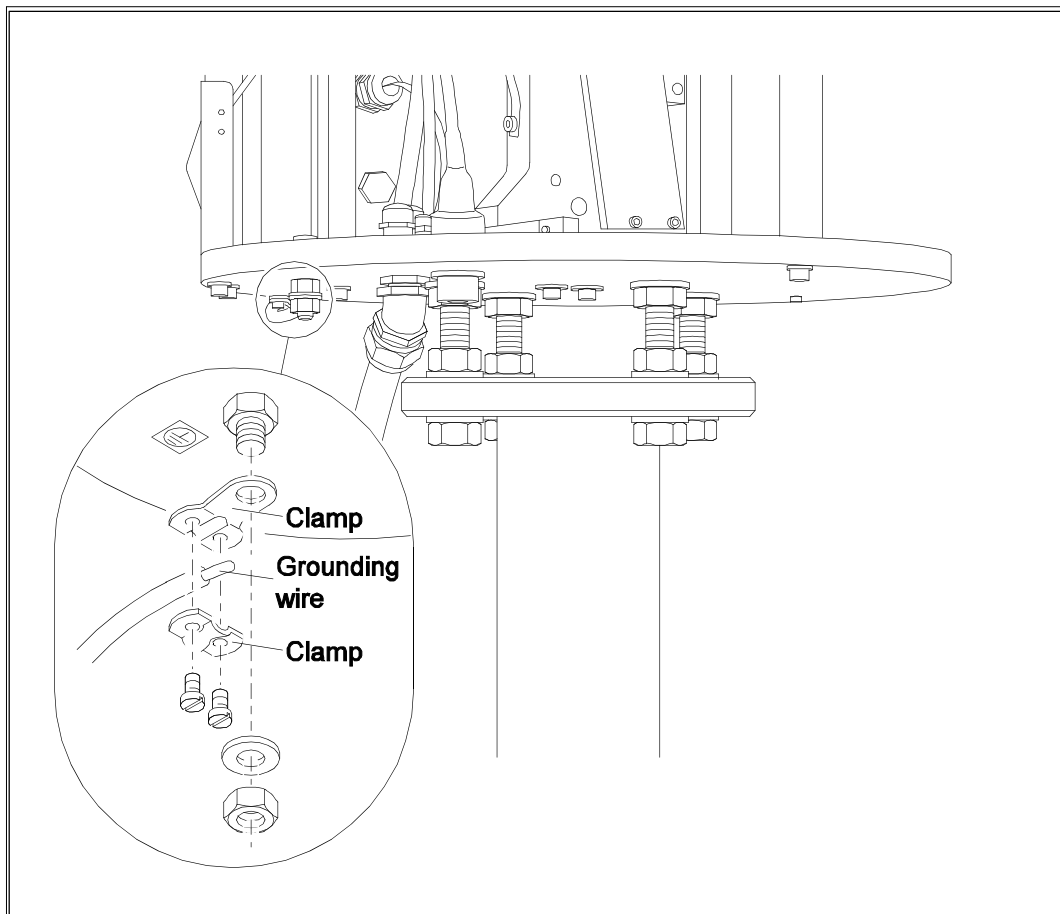

Figure 13
69. Connect one of the ground wires provided with the AWPAG from the ground lug on the bottom of the AWPAG electronics enclosure to the system ground. Use the split bolt grounding connector that was used to connect the Frise Rain Gauge ground. Replace the split bolt as necessary (see step 15 of this procedure). Connect the other ground wire provided from the ground lug on the bottom of the AWPAG sensor balance mechanism to the ground lug on the bottom of the electronics enclosure (see **Figure 13**).